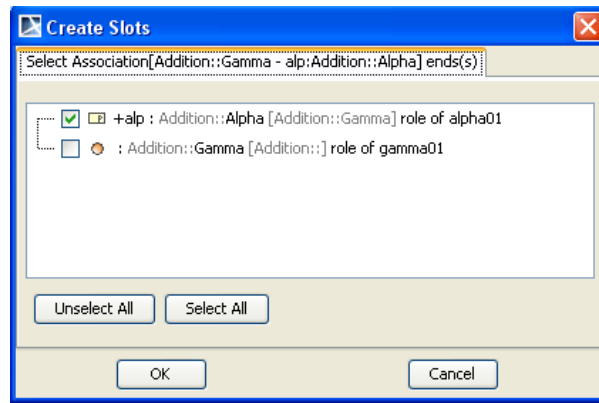

Figure 2.20 Create Slots window
- ii. On the Create Slots window, check alp:Alpha and click OK (Figure 2.20).